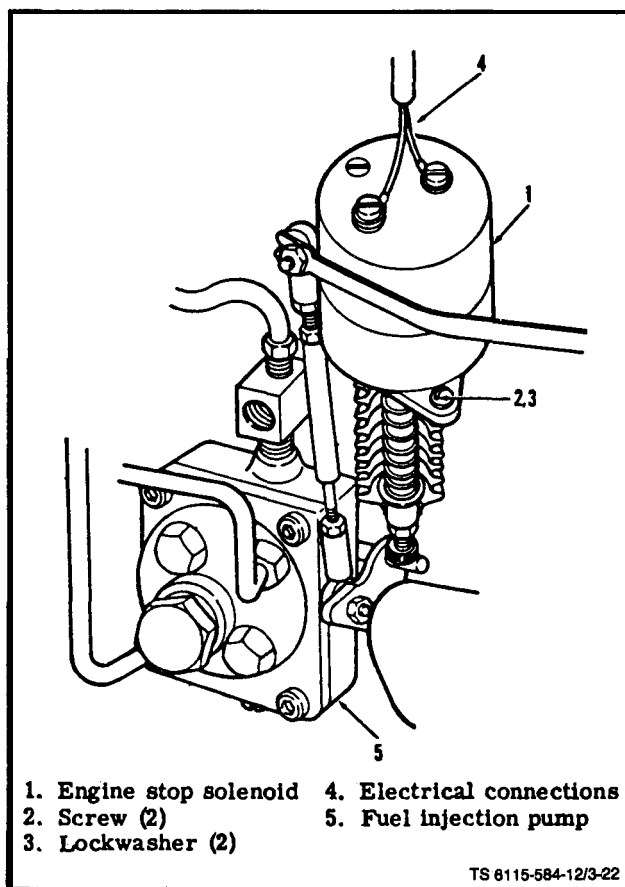

Figure 3-22. Engine Stop Solenoid
i. Engine Stop Solenoid (see figure 3-22). Inspect stop solenoid (1) for dents or other physical damage. Check that solenoid is securely attached to cylinder shroud bottom pan with two screws (2) and lockwashers (3). Check that electrical connections (4) to solenoid are clean and tight.